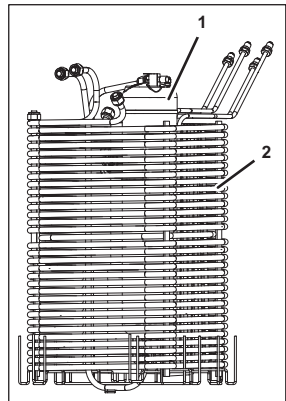

Figure 92
19. Lift the cooling coil basket (Figure 92/2) with carbonator tank (Figure 92/1) out of the unit.
22. Lift the carbonator tank (Figure 92/1) up and out of the cooling coil basket (Figure 92/2).
23. Position the new carbonator tank (Figure 92/1) within the cooling coil basket (Figure 92/2).
24. Attach the carbonator tank (Figure 92/1) to the cooling coil basket (Figure 92/2) using a cable tie.
25. Make sure the carbonator tank (Figure 92/1) is firmly placed against the cooling coils.
28. Position the cooling coil basket (Figure 92/2) with carbonator tank (Figure 92/1) within the unit.